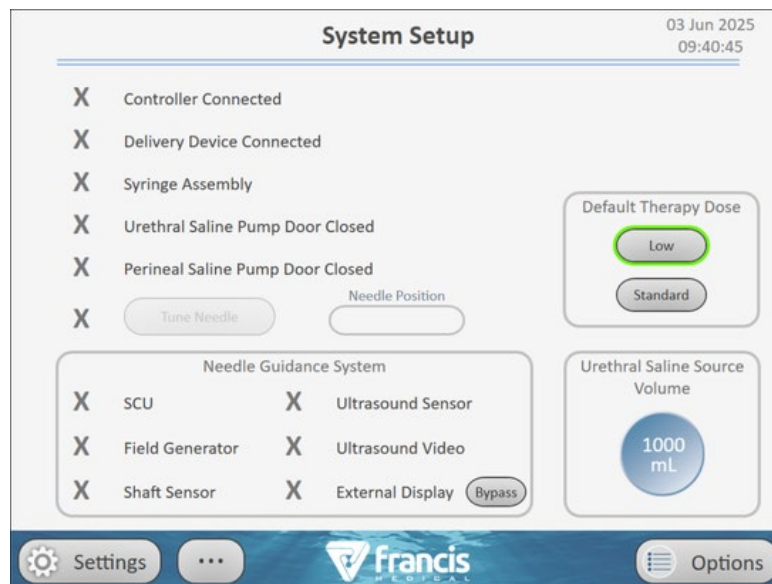

Figure 10-9: Initial Generator System Setup Screen
2. Once the Self-Test is complete, the system will display the System Setup screen with no connections (**Figure 10-9**).
Before starting treatment, all required system connections must be established. The **System Setup** screen (**Figure 10-9**) provides a visual status of each connection, ensuring proper setup before proceeding.